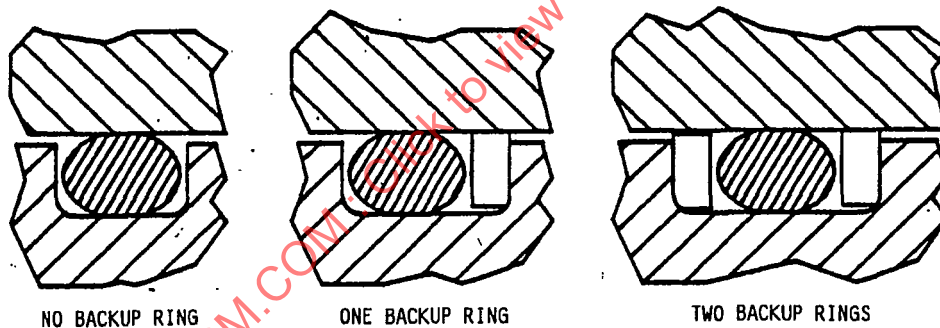

FIGURE 3 - Backup Rings
- 3.3.1 MIL-G-5514 Glands: O-ring glands are identified either as a NO backup ring gland, a ONE backup ring gland, or a TWO backup ring gland (Figure 3), and as an internal gland (for I.D. or rod sealing) or an external gland (for O.D. or piston sealing). The diametral extrusion clearances resulting from using the standard dimensions and tolerances are intended for sealing with normal hydraulic operating pressures up to 3000 psi, and with hydraulic fluid temperatures within the range of -65 to +275 °F when used with backup rings. The NO backup ring gland configuration may be used at pressures below 1500 psi. Higher pressures and/or higher temperatures may require extrusion clearances that are less than those provided by the standard dimensions of MIL-G-5514, and/or special backup ring configurations and materials.